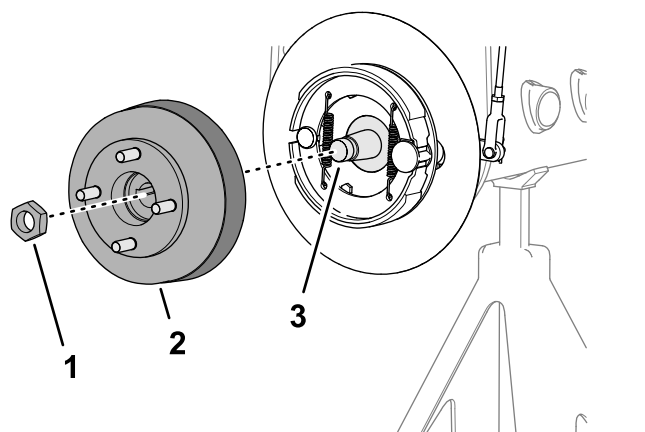
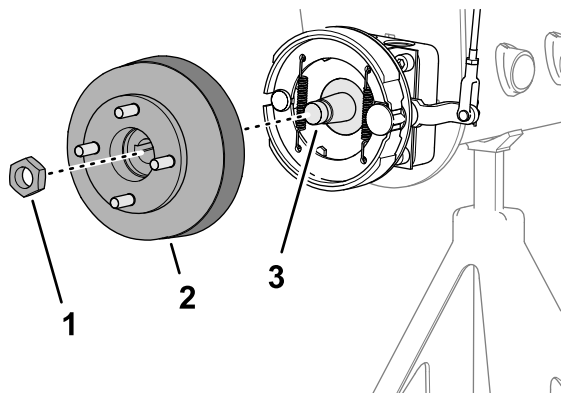

Figure 76
Figure 75
1. Remove the locknut that secures the hub to the wheel-motor shaft (Figure 75 or Figure 76).
4. Use the specified wheel hub puller to remove wheel hub and brake drum from the wheel-motor shaft (Figure 75 or Figure 76).